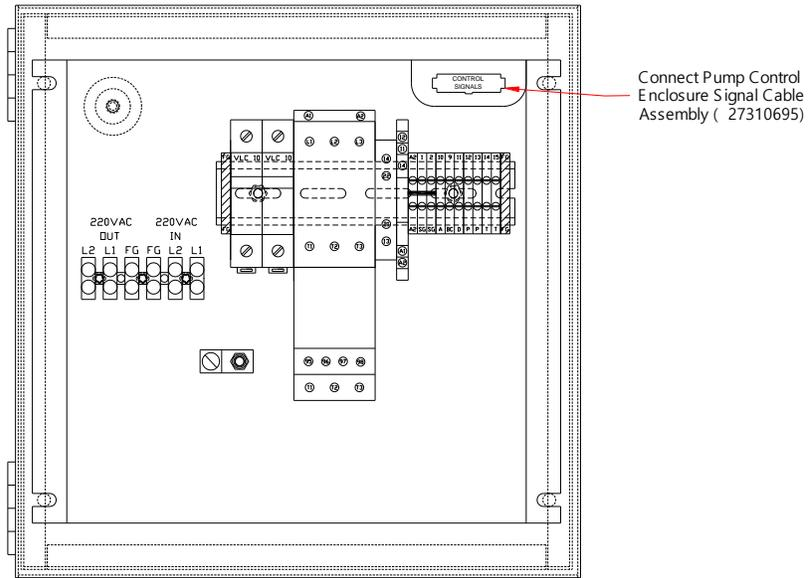

Figure 29 - Pump Control Enclosure Layout.
5. Connect the Pump Control Enclosure Signal Cable Assembly (27310695) to the Control Signals connector inside the enclosure as shown in Figure 28 & Figure 29.